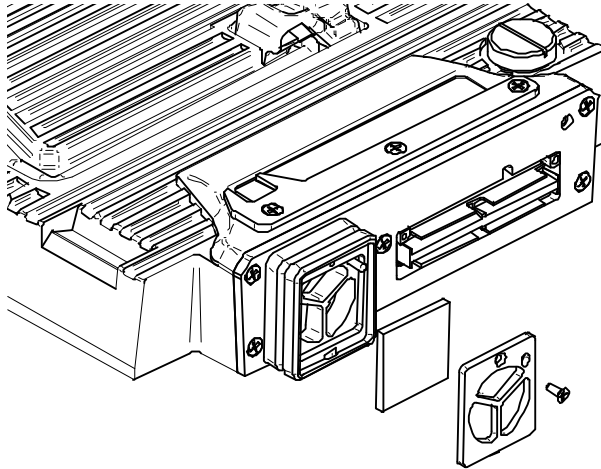

Figure B-3 The grill and filter of the OMNI-M-PA32mm model
1. On the fan grill, remove the screw securing the grill to the module (see Figure B-3 on page 135).